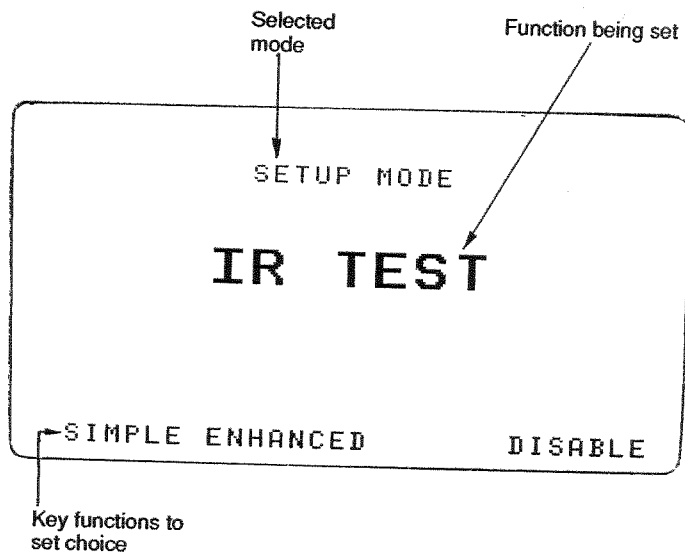

Figure 18 'IR TEST' screen from the 'SETUP MODE'
- From the 'SETUP STATUS' screen press the 'arrow head' key to select the 'IR' function option. Press the 'CHANGE' key to move to the 'IR TEST' screen as shown in figure 18.
- Having cl programn RANGES figure 18. given as voltage c
1. From the 'SETUP STATUS' screen press the 'arrow head' key to select the 'PI' function option. Press the 'CHANGE' key to move to the 'PI TEST' screen as when setting up the insulation resistance test. The screen display is similar to that shown in figure 18.
3. Having chosen the simple or enhanced option the programme automatically moves to the 'PI TEST RANGES' screen which is similar to that shown in figure 18. The four possible d.c. test voltage are given as they were for insulation tests and each voltage can be switched on or off by the
2. Select the 'SIMPLE', 'ENHANCED' or 'DISABLE' option as before and from the 'SV TEST RANGES' screen display (similar to that shown in figure 18) which follows select the desired ranges. There are only two choices of ranges 5000 V and 2500 V. These are the maximum values of the series of five step voltage tests that the instrument will carry out; the voltage steps are automatically set.